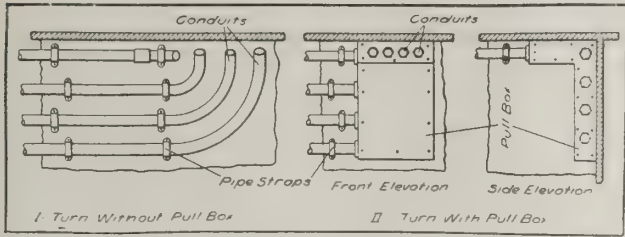
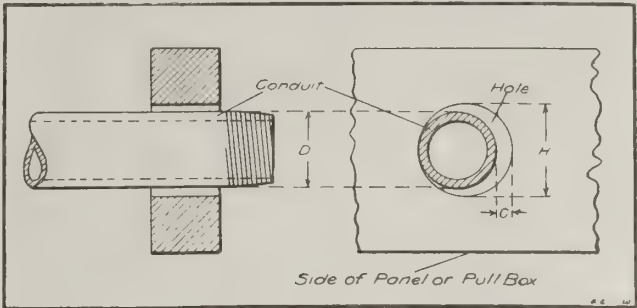
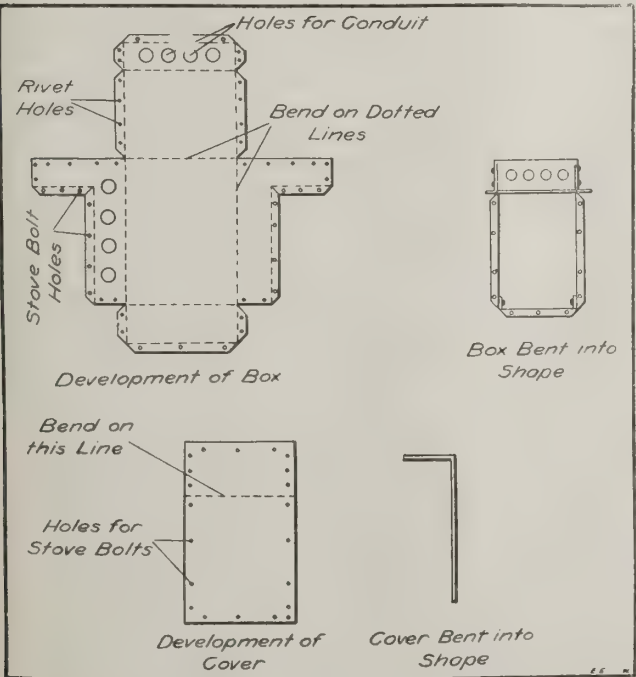

FIG. 1. A PULL BOX SUBSTITUTED FOR DOUBLE TURNS.
FIG. 3. ILLUSTRATING CLEARANCE FOR CONDUIT.
FIG. 2. HOME-MADE SHEET STEEL PULL BOX.
Pull boxes for the average situation can be purchased from manufacturers at less cost than that for which they can be made by the contractor. However, as for example, in Fig. 1, special pull boxes are frequently needed, sometimes on short notice. Boxes of this character can, where conditions justify it, be readily made by the wireman out of sheet steel, as indicated in Fig. 2. The box, the details of which are given in Fig. 2, is the one shown mounted on the wall in Fig. 3. The sheet metal, after being cut as shown and punched or drilled for the knockout holes, the rivet and the screw holes, is bent along the dotted line into the form shown. After bending, the corners are riveted together. The cover of the box is held on with round head stove bolts.
Table I shows the diameters of the holes that should be punched or drilled in pull boxes or panel boxes for the accommodation of the different sizes of conduit. There are two divisions of the table. In the right hand division (A) are given the hole diameters where a diametral clearance of approximately 1/8 inch is desired for all of the sizes. In the division (B) of the table at the left are given the diameters of the holes that provide the clearance ordinarily used in practice. In Fig. 3 are indicated the reference letters of the table.
The aisle and wall cases in jewelry department displaying glass and silverware are shown in Fig. 2. The reflectors of these cases are finished statuary bronze. The wall cases are three feet deep and five feet high with two plate glass shelves. All cases have mirror backs, exterior finish Circassian walnut. It will be noted that there is no back reflection from the mirrors. This photograph also shows an interior view of the show window lighting system. This reflector is a Frink trough reflector shown in Fig. 4. It is finished in white corresponding with the rest of the window. All reflection of light as well as the source of light is out of the field of vision from both the interior and exterior of the store. Aisle and wall cases of the corset department are shown in Fig. 3. The aisle cases are 30 inches deep